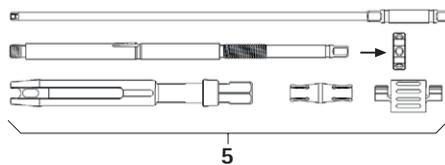

Fig. 3
- ▶ Disassembling percutaneous reduction lever 5, see Fig. 3. Fully disassemble reduction lever and unscrew lock nut.